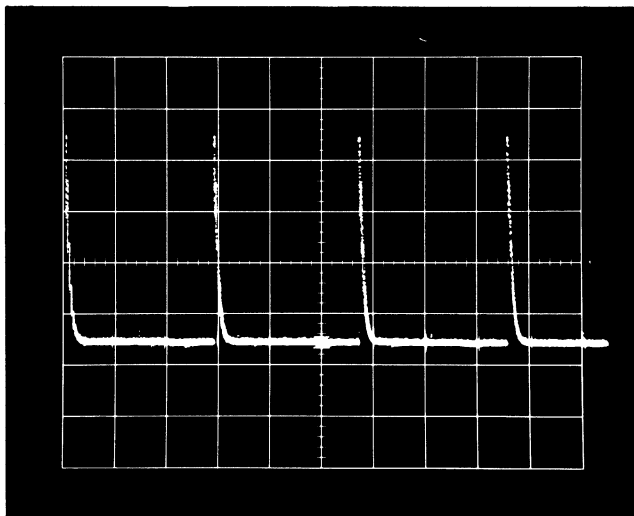

Fig. 5-17. Typical 1-msec marker waveform with REAL TIME/CM switch at 1 mSEC and Real Time/Cm VARIABLE fully clockwise.
- e. **Check** that the control has an effective range of 2.5 (or more) to 1 (see Fig. 5-17). The distance between markers in the display should be 2.5 cm or greater.